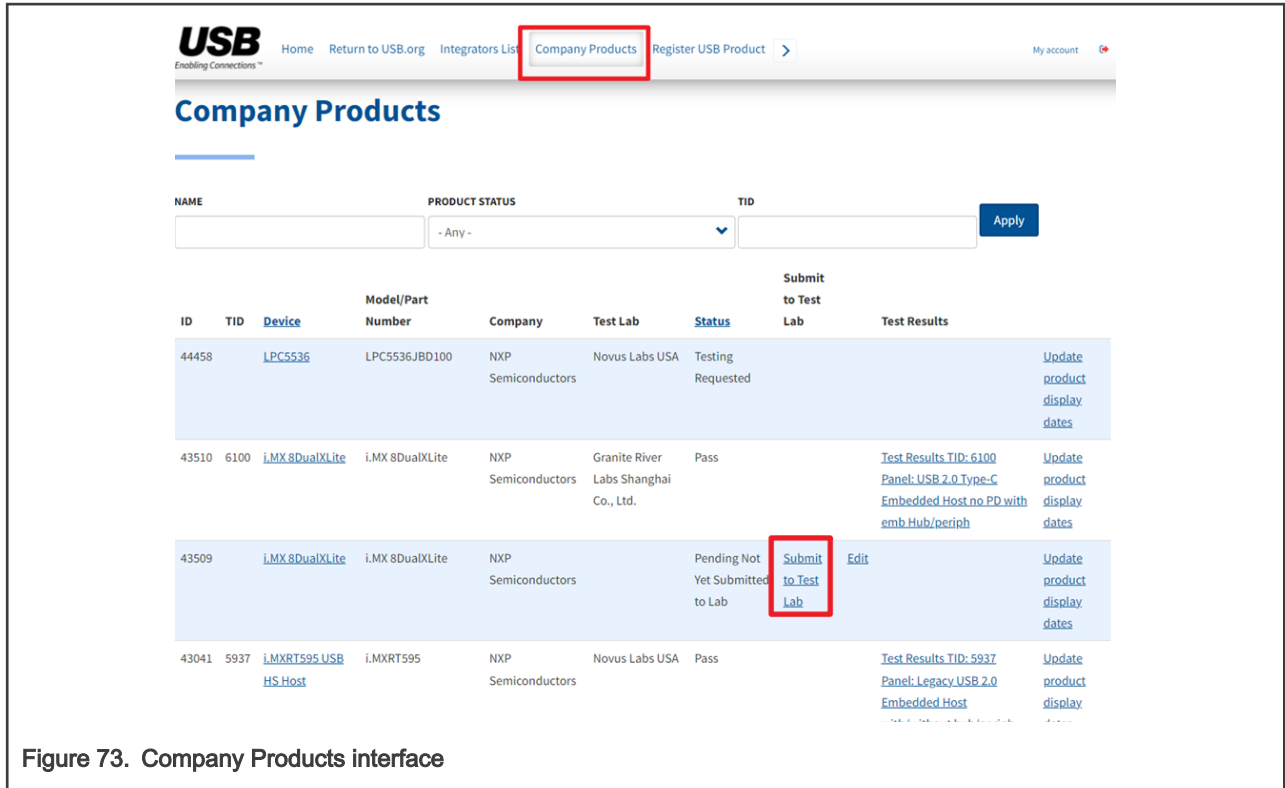

Figure 73. Company Products interface
5. Click **Submit to Test Lab** of your product, as shown in Figure 73. Choose the test lab on the test lab submission page.